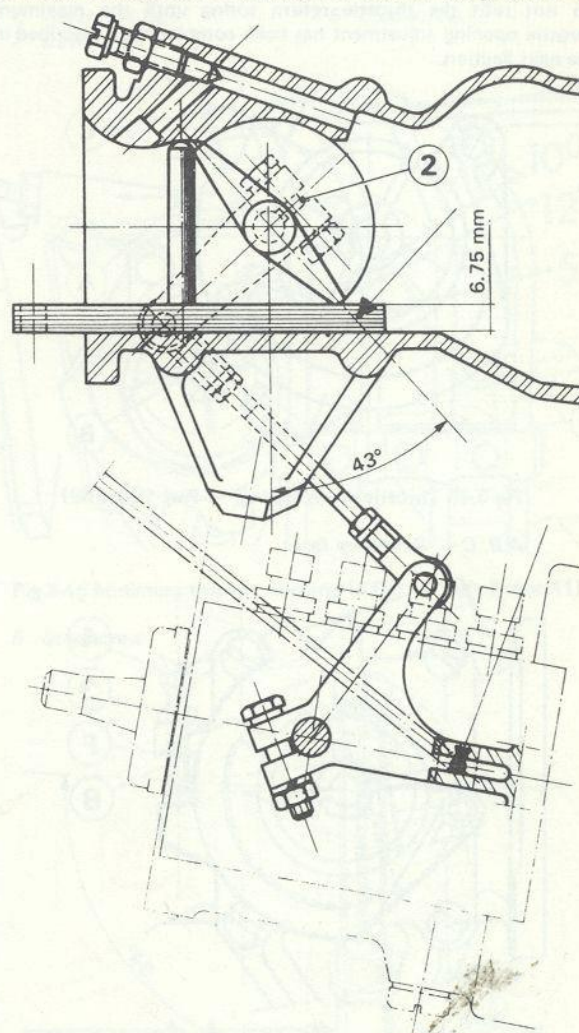

Fig 3.38 Throttle adjustment - KF6 System (Sec 39)
2 With the link removed, lock the lever on the pump body by inserting a 0.20 in (5.0 mm) rod through the hole or slot in the pump lever into a blind hole in the pump body (see Fig. 3.38). Do not slacken the bolt clamping the lever to its spindle.
3 Slacken the bolt (2) Fig. 3.38 and 3.39). Now insert a strip of metal 0.266  $\pm$  0.001 in ( $6.75 \pm 0.025$  mm) in the groove at the
bottom of the throttle entrance. Figs. 3.38 and 3.39 show the gauge used by Peugeot garages in position. The rod sticking out of the metal strip has no critical dimensions, it is simply there to push up against the throttle flap so that this is firmly held against a metal strip when the gauge is pushed into the throttle flap housing.